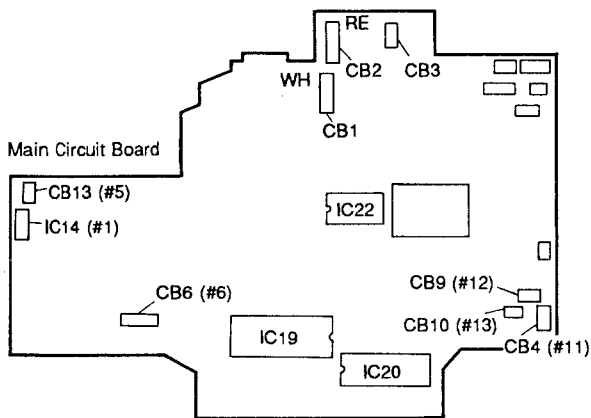

Fig.9
8. Remove connectors CB1 to 4, 9 and 10 (Fig. 9) from the Main Circuit Board.